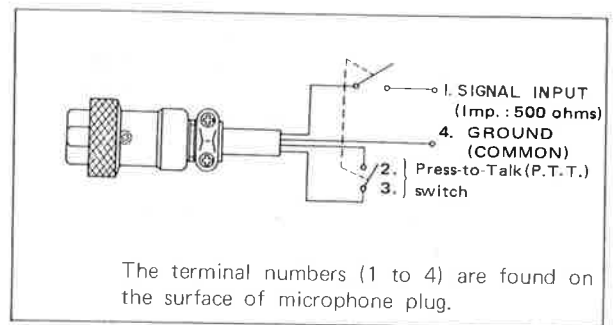

Figure 22-2 CONNECTION OF MICROPHONE PLUG
- 4- As to the alignment of the modulation circuit, be sure to use the microphone plug shown in Figure 22-2 to be connected to it.